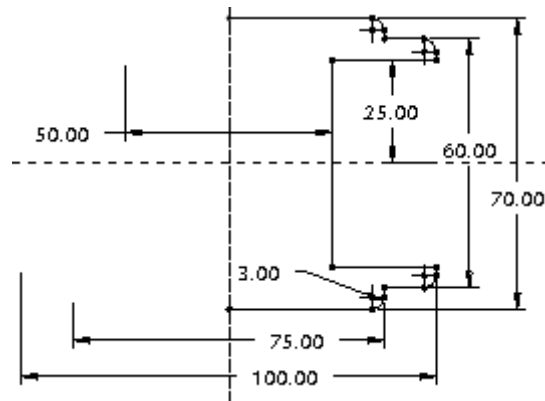

Figure 3-70 Sketch after modifying the dimensions with constraints turned off for clarity
3. Clear the **Regenerate** check box and then modify the values of the dimensions, as shown in Figure 3-70.